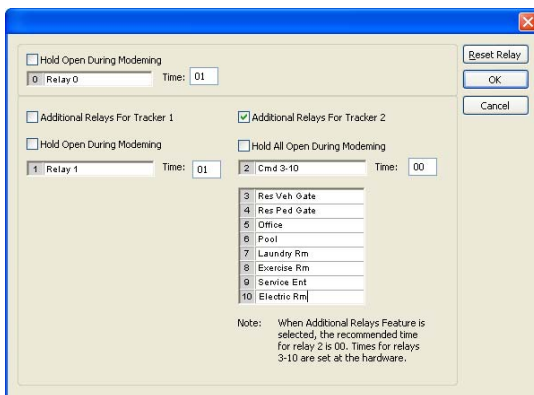

Figure 21
2. Click "Additional Relays For Tracker 2" button to enable system relays 3-10 (Fig 21).